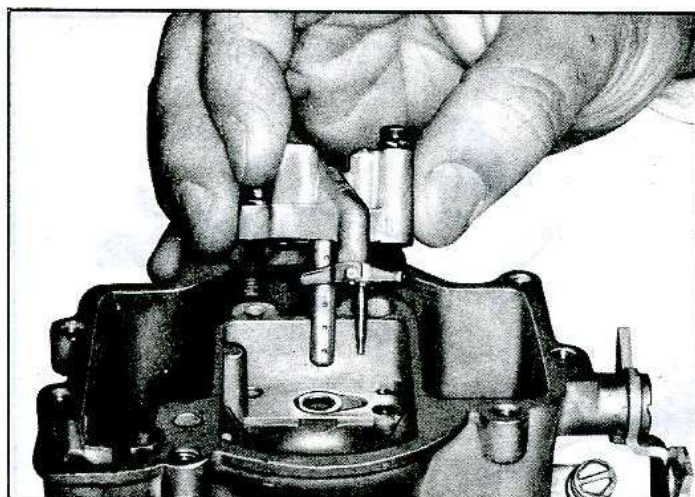

Fig. 6—Removing Venturi Cluster
10. Remove the two screws and lock washers attaching venturi cluster to the bowl assembly and lift out the cluster, gasket and main well insert, (fig. 6).